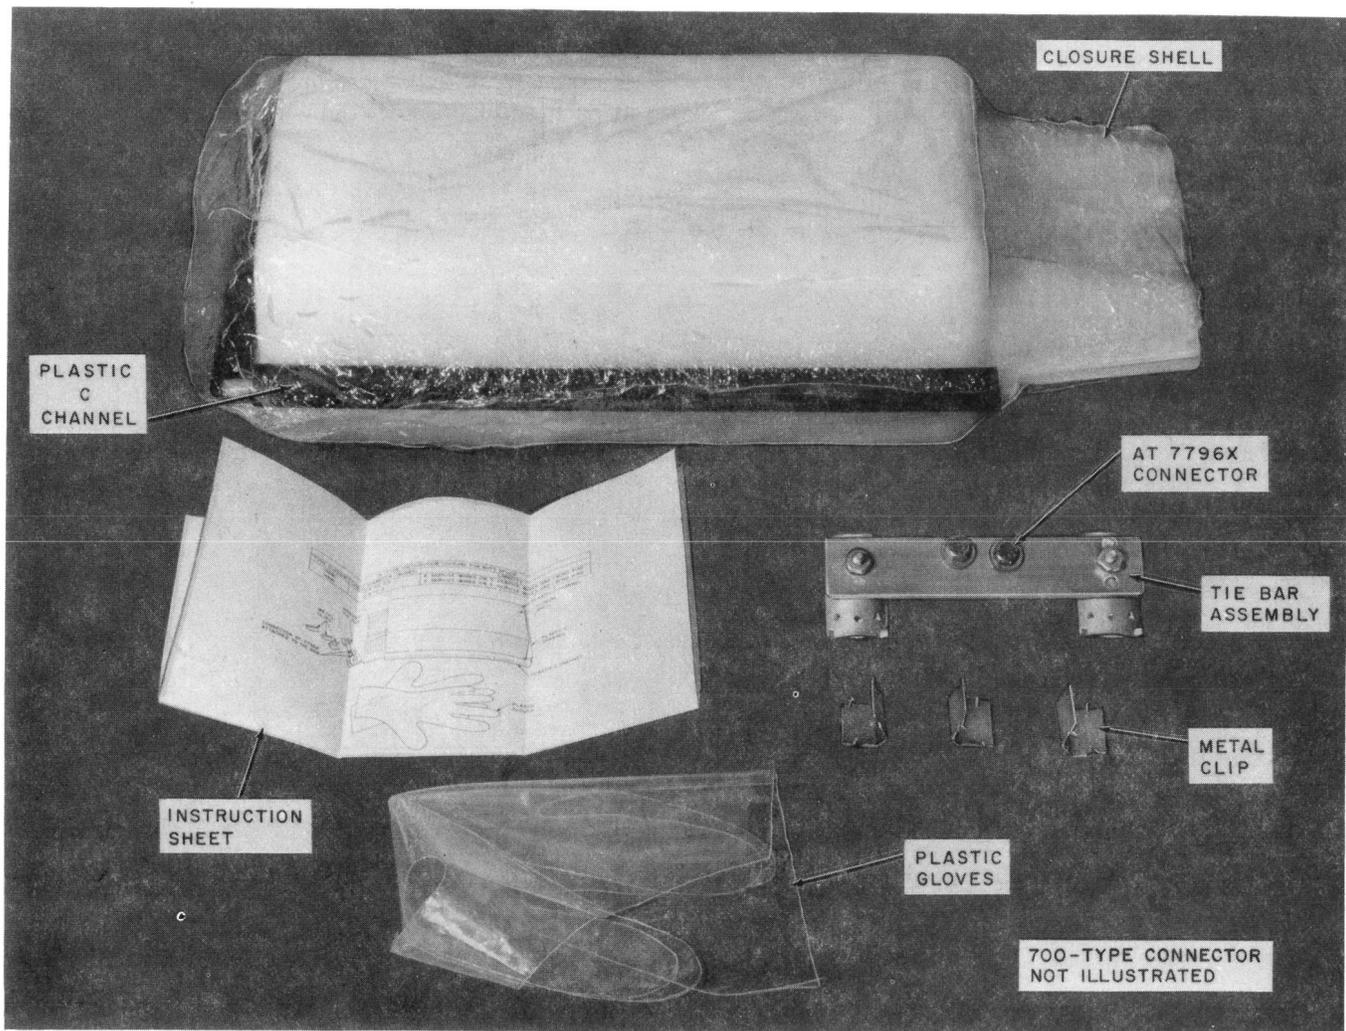

Fig. 2—14-Type Distribution Closure
2.04 The 14-type distribution closure illustrated in Fig. 2 consists of the following components.